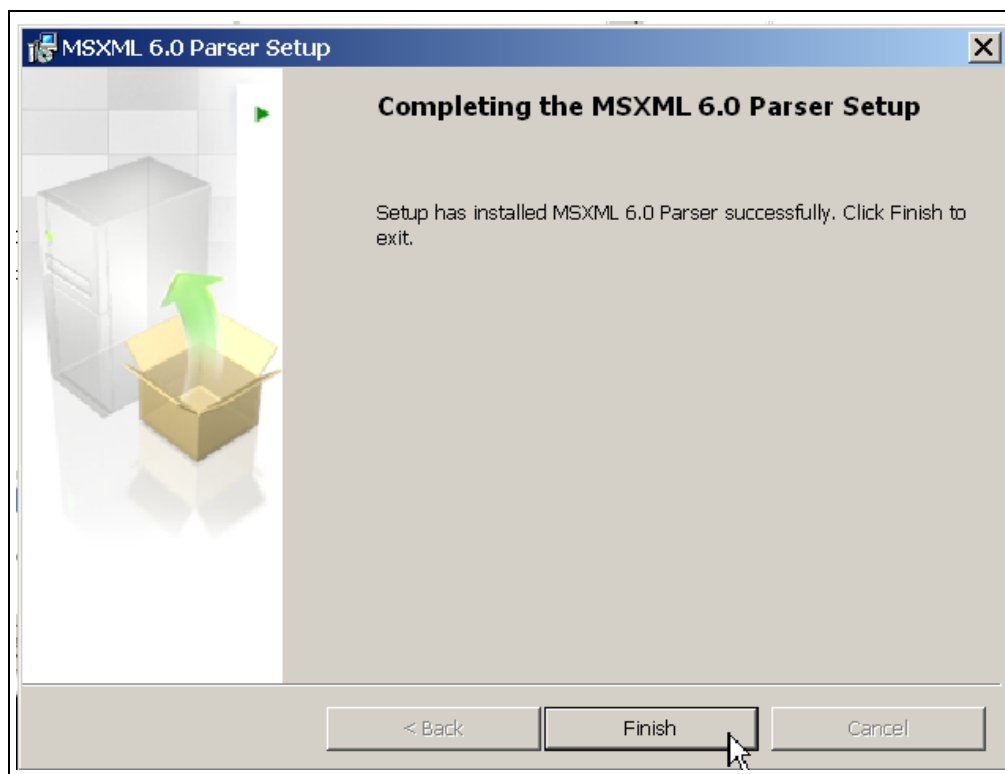

FIGURE 2-7: MSXML Parser Install Window.
9. After the setup is complete, the MSXML Parser used by the Chip Manager software is installed, as shown in Figure 2-7. Once the setup completes successfully, press **Finish** to exit the install.